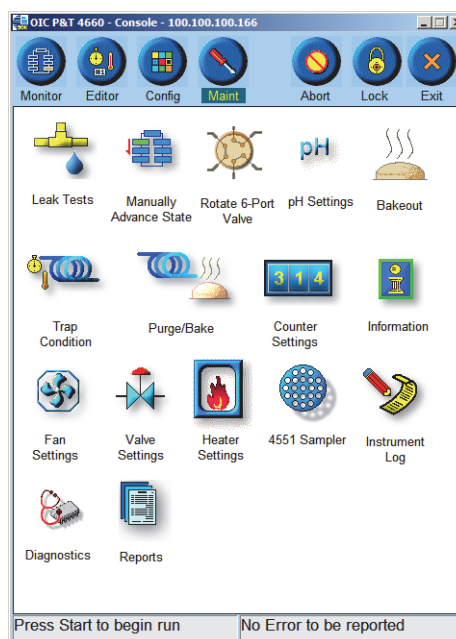

Figure 3.25. Maintenance screen
3. Press the **Maint** icon to access the Maintenance screen (Figure 3.25).
1. Press the **Maint** icon to access the Maintenance screen (Figure 3.25).